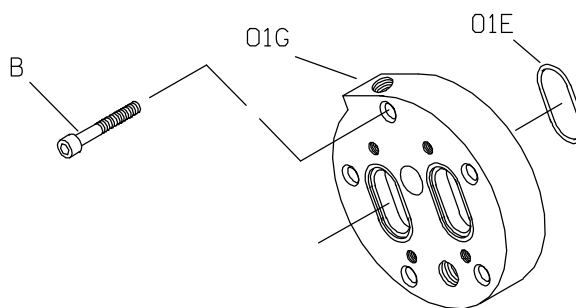

Figure E-2. Typical Head Jacket Assembly
If your pump is equipped with an optional head jacket, see Figure E-2 and remove the capscrews (B) securing the head jacket (01G) and O-rings (01E) to the head assembly (01A, Figure E-1). Refer to Jacket Option Appendix H for Inlet and outlet location.
(Figure E-2 And E-3)
If your pump is equipped with an optional head jacket, see Figure E-2 and install the O-rings (01E) in the grooves in the head (Figure 1, 01A).